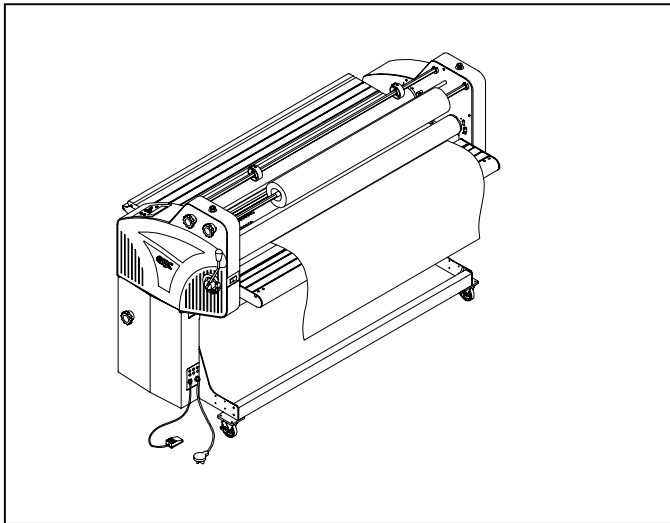

Fig. 4
3. The laminator should be positioned to allow exiting film to flow freely to the floor or a work table (Figure 4). Accumulation of laminate immediately behind the laminator as it exits the equipment may cause the film to wrap around the pull rollers, resulting in a "jammed" condition.